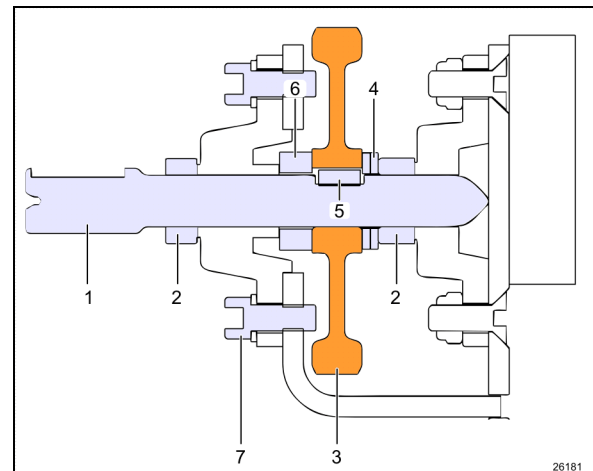

FIGURE 39: PINION ASSEMBLY SECTION VIEW.
1. Unscrew all set screws on the drive shaft yokes (item 4 in TORQUE TABLES). Slide drive shaft towards gearbox to disengage the yoke from the pinion shaft (item 1 in Figure 39).